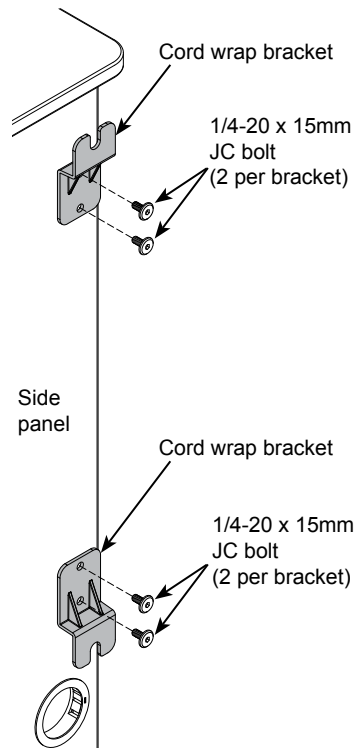

Figure 1
2. With the cord wrap brackets pointing away from each other as shown in **Figure 1**, attach each to the side of the unit with (2) 1/4-20 x 15mm JC bolts and (2) 1/4-20 locknuts from the inside.